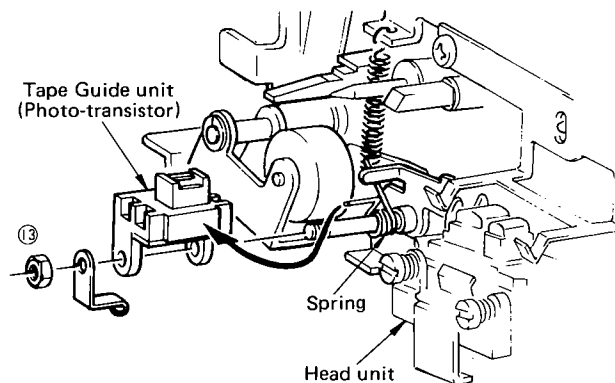

Fig. 10
- Remove the hexagonal nut (⑬) in Fig.10 and then remove the photo transistor.